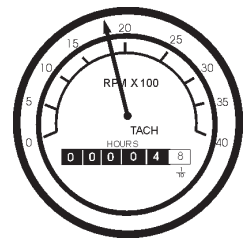

Figure 52. Engine Tachometer Gauge
16. The **tachometer gauge** (Figure 52) will indicate the speed of the engine when the generator is operating. Under normal operating conditions this speed is approximately 1500 RPM's.